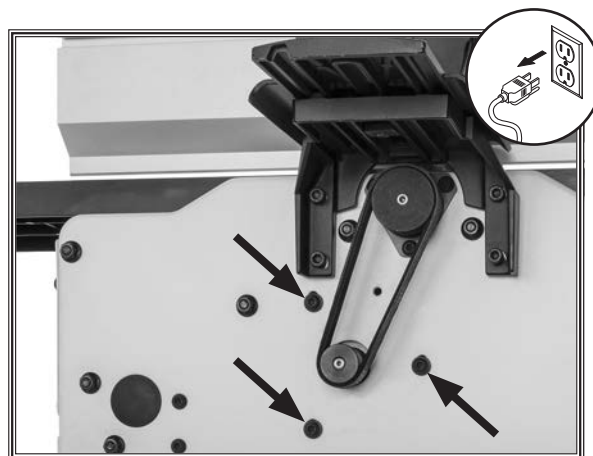

Figure 43. Location of screws around motor pulley.
2. Loosen (1) button head cap screw securing belt cover, then remove cover.
3. Loosen (3) button head cap screws around motor pulley (see **Figure 43**). DO NOT remove screws!